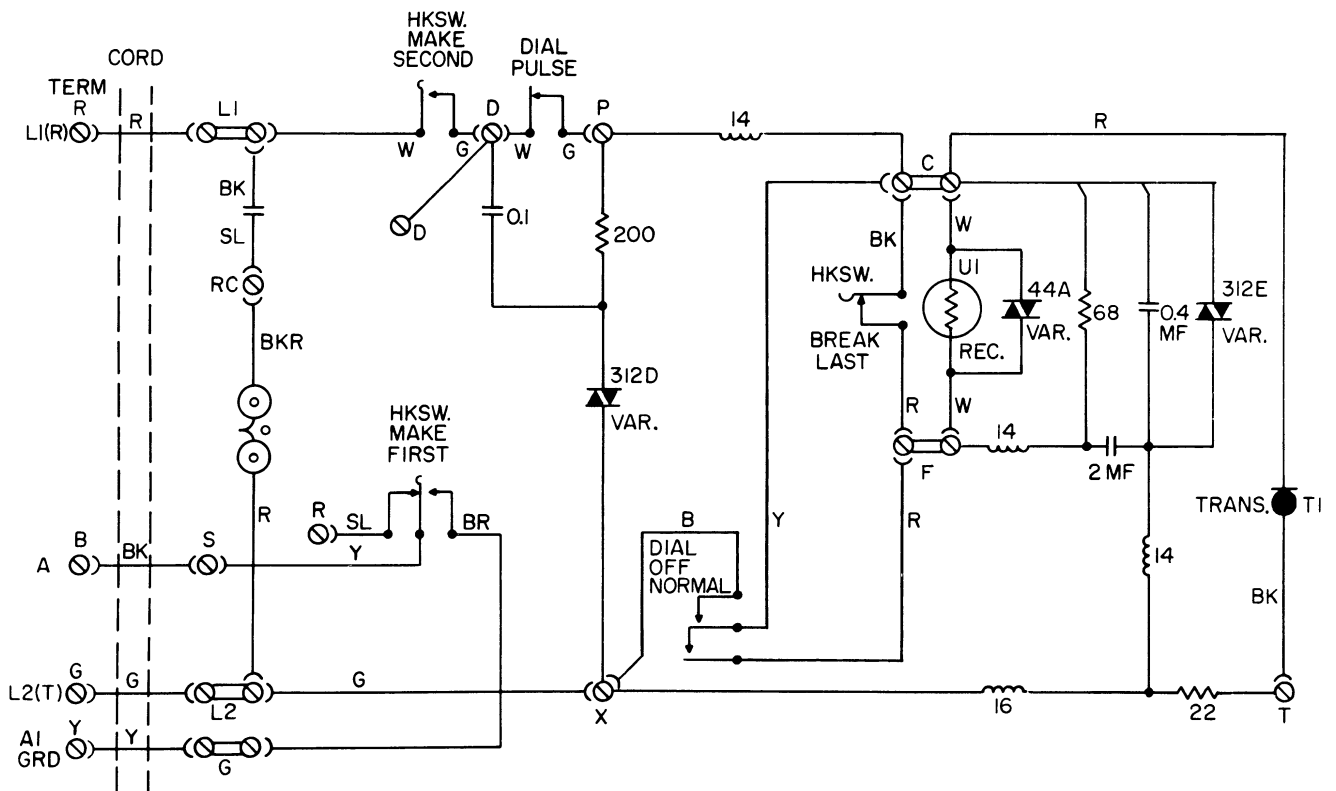

Figure 1. Circuit Drawing of Modified Leich 100-Series Telephone Set.
2.01 The circuit drawing of a Leich 100-series telephone set is shown in Figure 1 as modified for key system operation. The modification procedure is set forth in steps (1) through (6) below, in which all terminals referred to are on the panel of the steel-cased, potted self-compensating network with which the set is equipped.